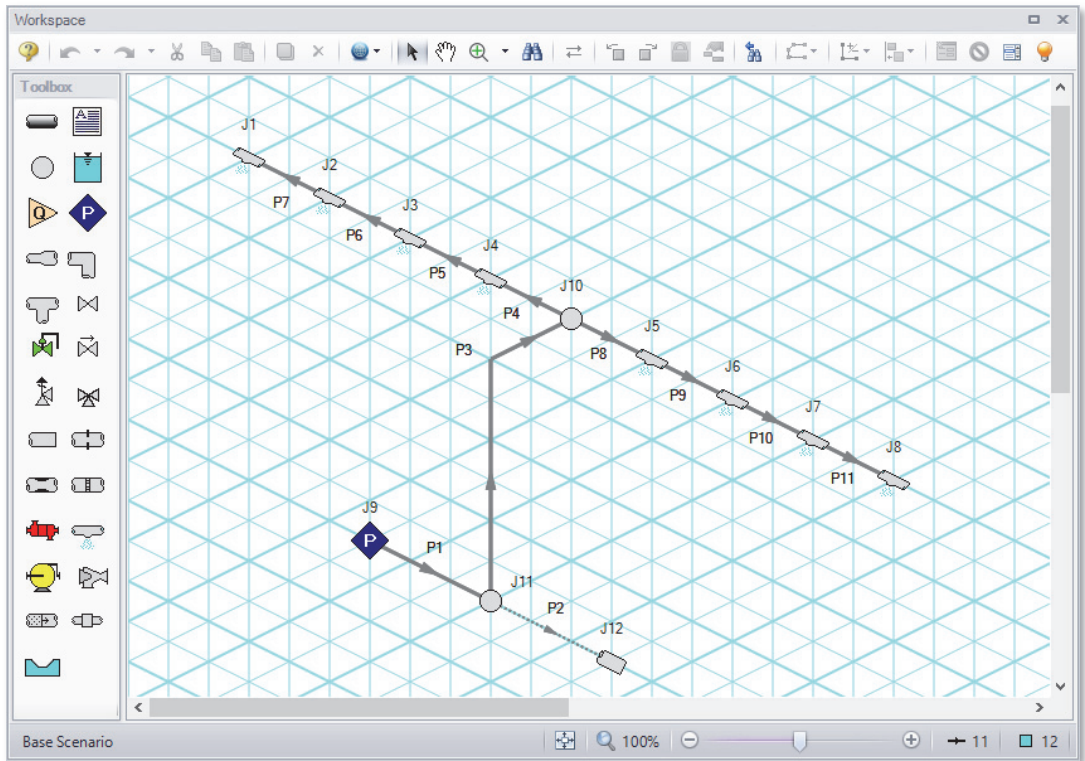

Figure 3.9 Spray discharge system with the isometric grid shown
At times it may be convenient to demonstrate the three-dimensional nature of a system. For example, if you are building a model based on isometric reference drawings. AFT Fathom includes an Isometric Pipe Drawing Mode for these cases. The isometric grid has three gridlines that are offset by 60°, representing the x, y, and z axes. Figure 3.9 shows the spray discharge system built on an isometric grid.
10. Draw Pipes 1 and 2, as shown in Figure 3.9.
12. Draw Pipes 4-11, as shown in Figure 3.9.
13. Right click on junctions J1 and J8 and select Customize Icon. Select the appropriate orientation, as shown in Figure 3.9.